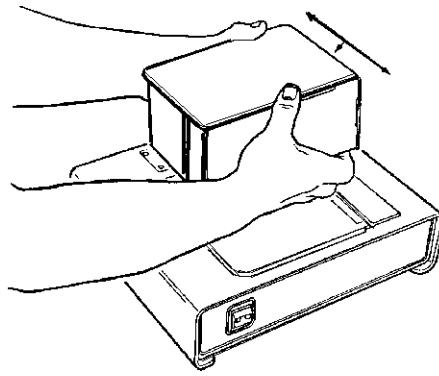

Figure 11. Shroud Cover Removal.
- 6.1.1 Remove shroud by pulling apart sides and sliding off (See Figure 11).